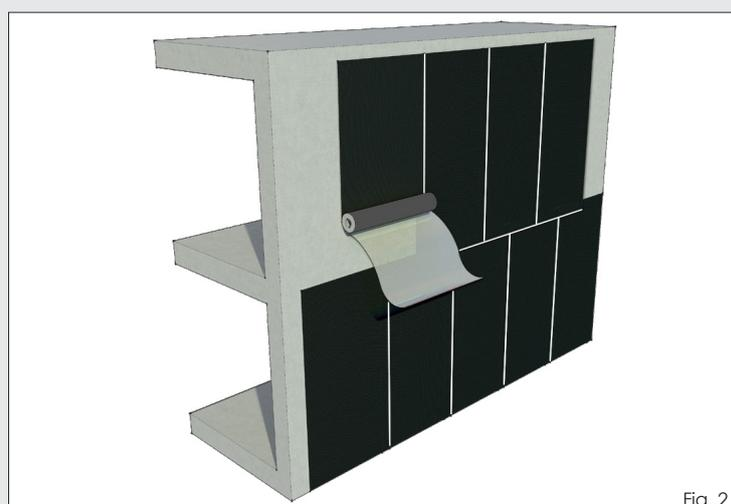

Fig. 2
6. Allow the remainder of rolled up material to drop down - with release paper still attached. Check for proper alignment (Fig.2).